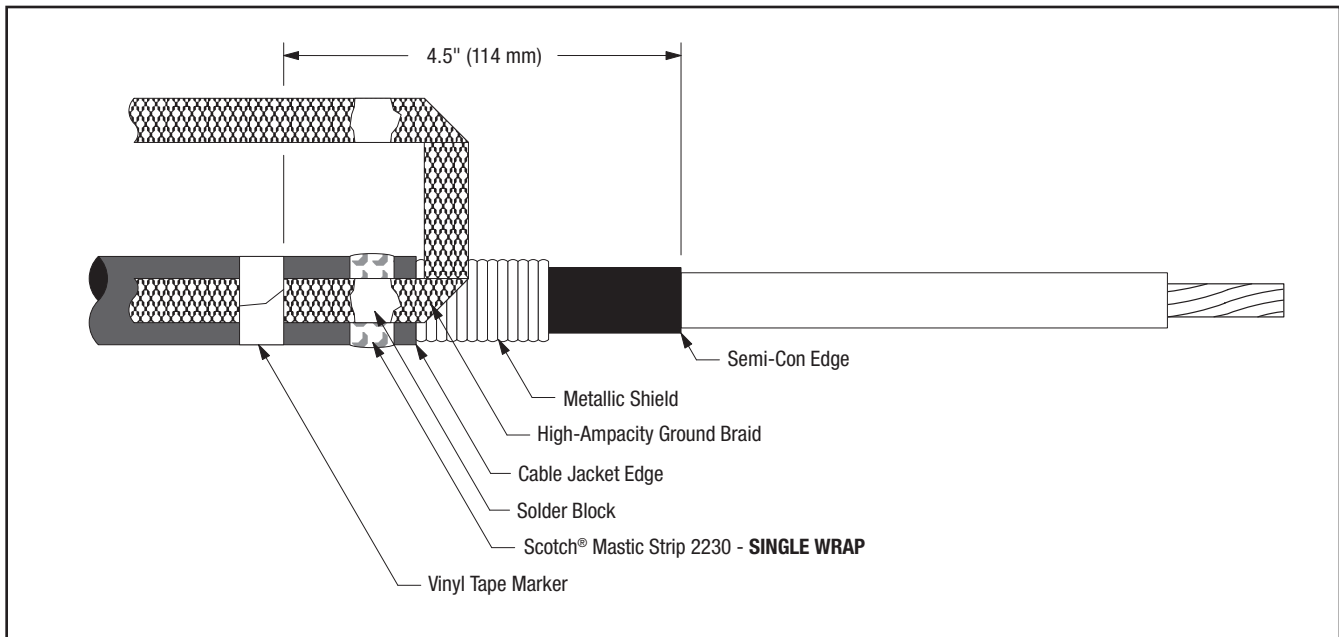

Figure 5
- 4.2 Position pre-formed high-amp ground braid with the “U” section over the metallic shield directly adjacent to cable jacket cut edge. PLEASE NOTE: The ground braid needs to make full contact with the metallic shield. Position one tail of ground braid, extending over cable jacket with solder block over mastic strip applied in Step 4.1 (Figure 5). Secure high-amp ground braid to cable jacket **4.5" (114 mm) from cable semi-con edge using vinyl tape**. Apply tape directly over previously applied marker tape if it was applied for Tape-Over-Wire cable shield wires (See Note and Figure 5).